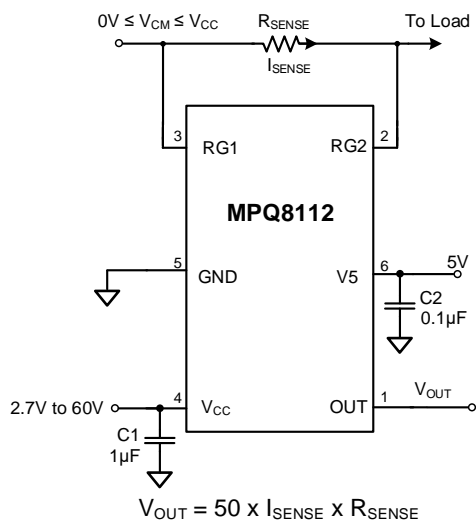

Figure 7: MPQ8112 ($V_{CM} \leq V_{CC}$)
10) The recommended PCB layout is based on Figure 7.